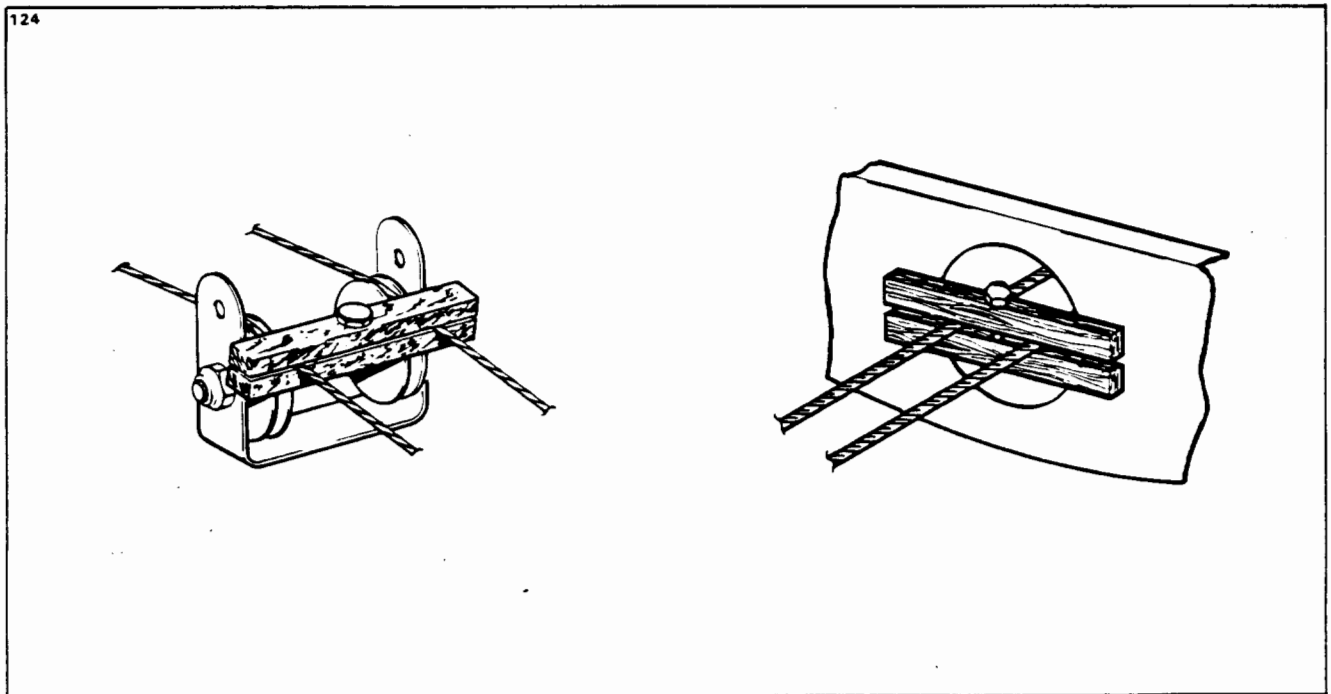

Figure 27-15. Methods of Securing Trim Cables
2. If the aft trim cable is not to be removed, block the cables at the pulleys in the aft section of the fuselage to prevent them from unwrapping from the trim drum. (Refer to Figure 27-15.)
2. Block the trim cables at the first set of pulleys forward of the cable turnbuckles in the aft section of the fuselage by the method shown in Figure 27-15.